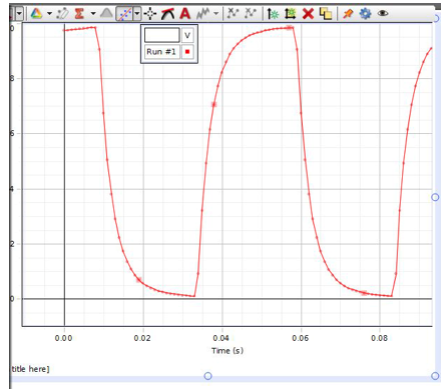

Figure 10: Signal trace
- 10 To monitor the signal, click the **START** button in the main window. It will be necessary to adjust the time and voltage scales to produce a signal trace like that shown in Fig. 10. This will allow you to observe how the voltage on the capacitor varies as a function of time. To do this, set the cursor on any value along the axis you wish to zoom on, and move the cursor left-right or up-down as needed. When properly zoomed, you will have only one wavelength in the graph display like the trace in Fig. 10.